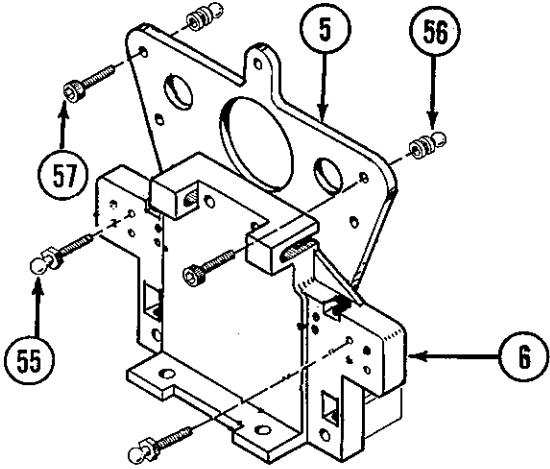

FIG. 21
1. Install 3/8" studded ball joint (55) from the rear into top inside hole in rear bulkhead (6). Fig. 21.
2. Secure shock mounts (56) to front side of rear shock tower (5) using two 4-40 x 7/8" socket head screws (57). Fig. 21.